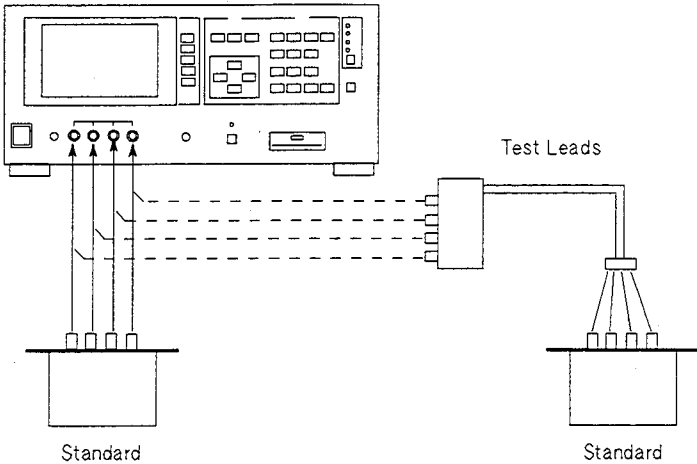

Figure 2-18. Impedance Measurement Adjustment Setup
- 5. Perform the impedance measurement adjustment (EEPROM data updating) according to the program instruction. Figure 2-18 shows the adjustment setup.